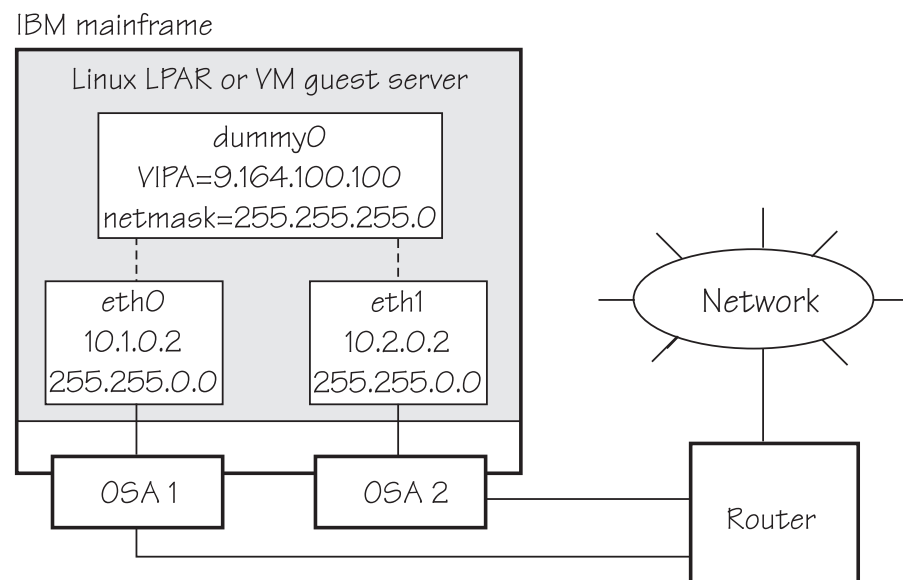

Figure 46. Example of using Virtual IP Address (VIPA)
- Static routing (shown in the example of Figure 46).
Figure 46 shows the network adapter configuration that is used in the example.